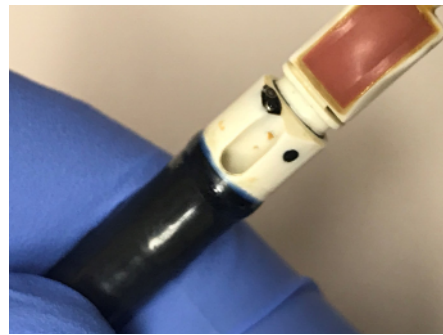

Figure 2: Debris present on biopsy channel of EUS endoscope
Sterile Processing (SP) technicians and leaders should aim to inspect endoscopes at every opportunity. The earlier the problems are detected, the better the chance of preventing potential problems and reducing patient risks down the line. Although recognizing the importance of routine and ongoing inspection is beneficial, it is also helpful to determine a specific time and process for visually inspecting flexible endoscopes. Manufacturers’ instructions for use (IFU) may offer inspection recommendations, but not all will include specific directions for the critical inspection step. In the absence of those instructions, the latest version of ST91 can deliver valuable guidance. ST91:2021 places the visual inspection step after manual cleaning, rinsing, drying and channel purge. This is an ideal time in the process to perform visual inspection. If debris is found, the manual cleaning process should be repeated. (See **Figure 2**) If damage is